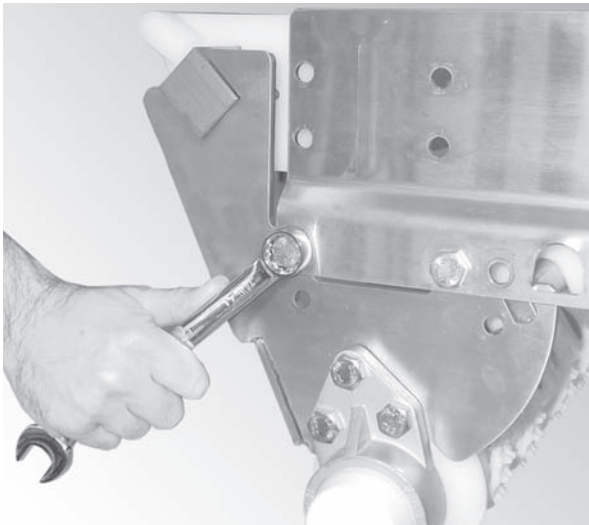

Figure 12
1. Bolt the nose bar drive tail assembly to the conveyor frame (Figure 12).